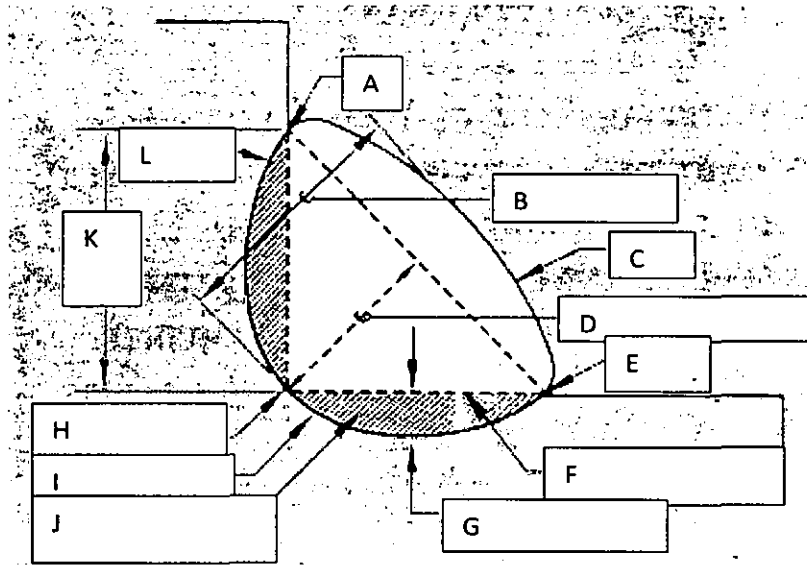

Figure 1: The weld bead.
3. Write out from A – K the missing parts of a weld bead in Figure 1.